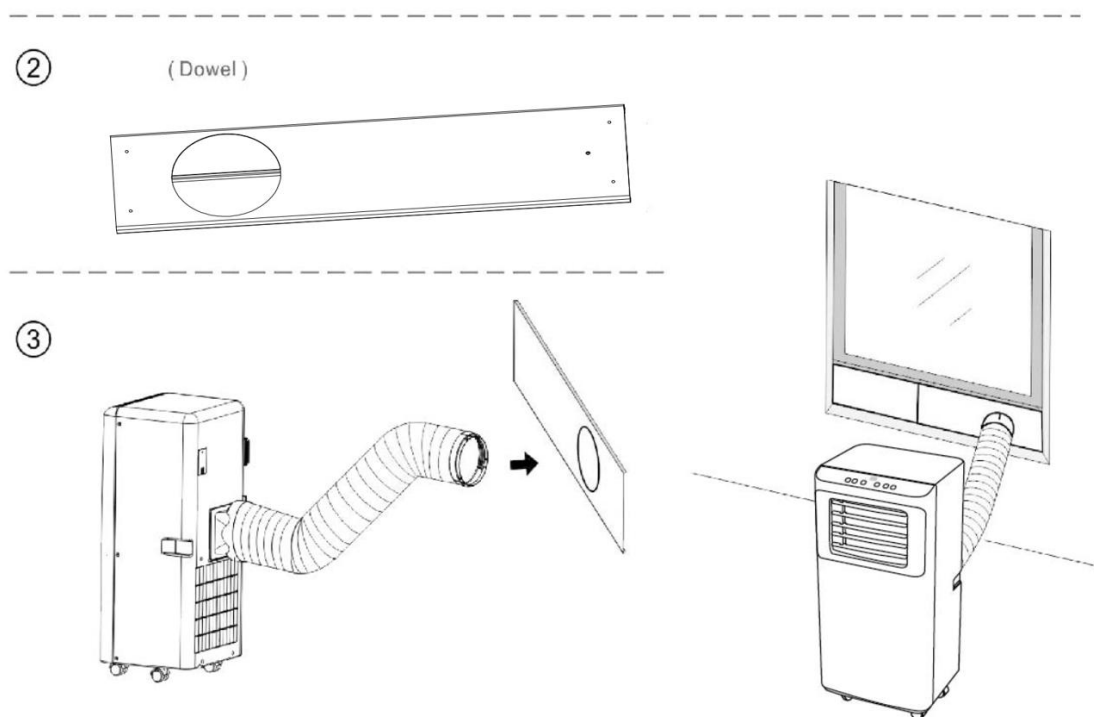

Fig.5b
3. Insert the window connector of the hose to the hole of the window kit(Fig.5b)